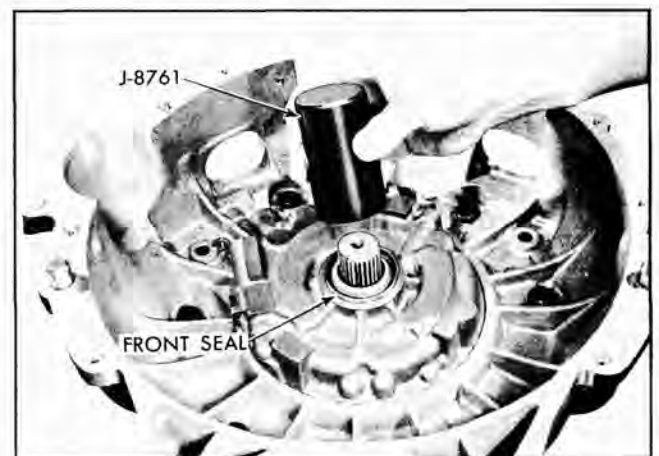

Fig. 133 Installing Front Seal
5. Install front seal, rubber lip down, using J-761 (Fig. 133). Rotate transmission back to horizontal position, bottom up.